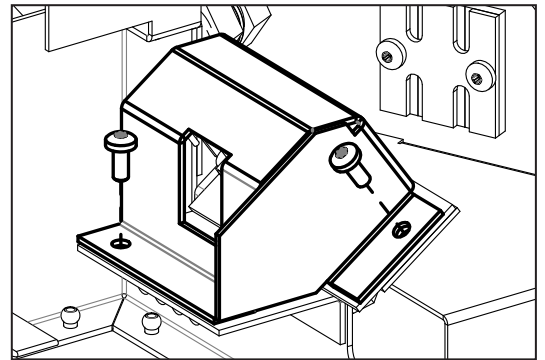

Figure 26: Pilot Shield Removal
4. Remove the pilot cover from the pilot assembly (see Figure 26).